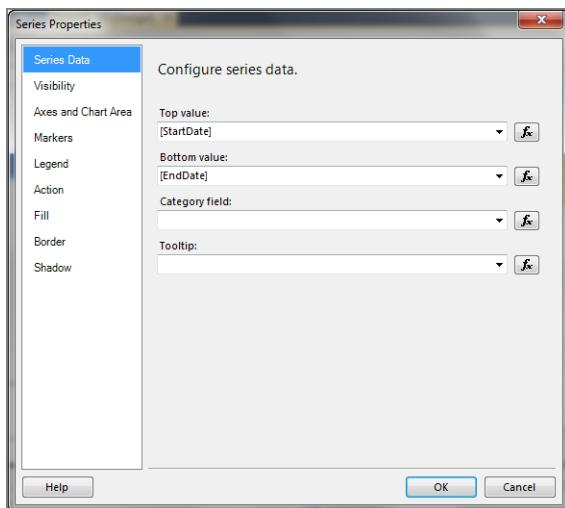

Figure 13-20
6. Map the Top and Bottom range values, as shown in Figure 13-20. Note that it is necessary to remove the `Count()` function.